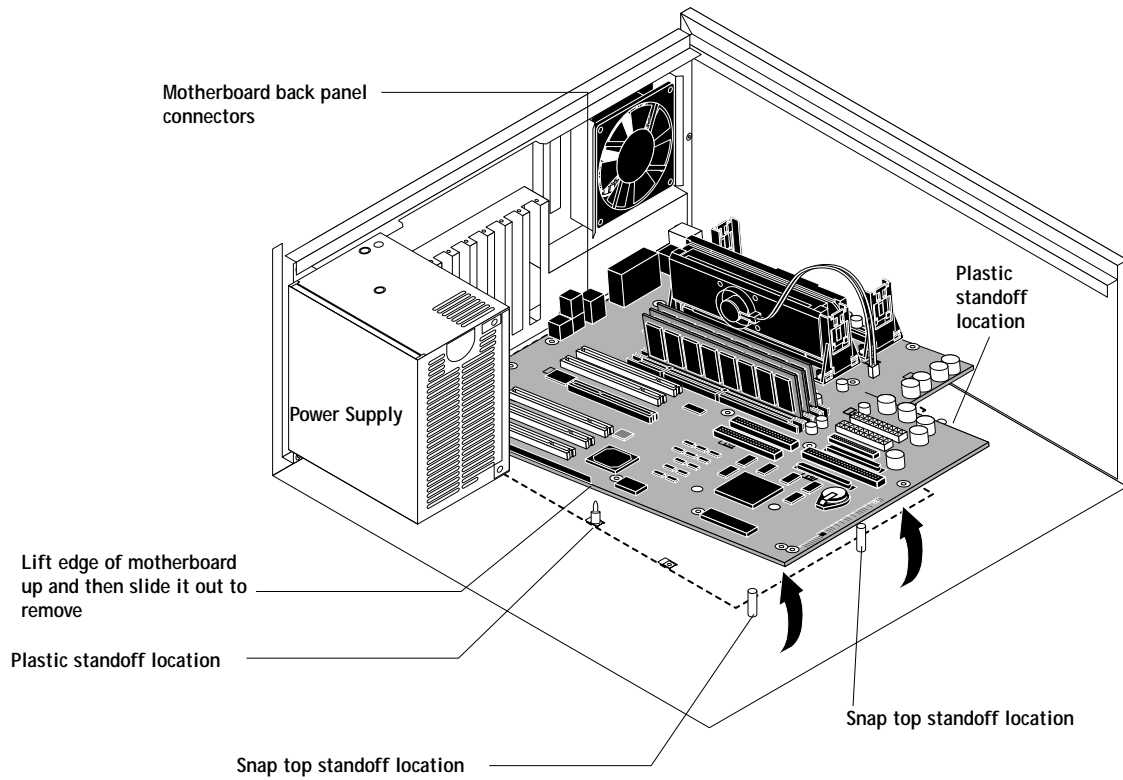

FIGURE 4-18 Removing the motherboard
6. Gently slide the motherboard out of the E-800A tray (see Figure 4-18).
2. Angle the motherboard so the back panel connectors on the motherboard fit into the cutouts in the back of the tray. See Figure 4-18 on page 4-27.
3. Align the mounting holes on the edge of the motherboard (opposite the back panel connectors) with the standoffs located in the base of the tray (see Figure 4-18 on page 4-27).